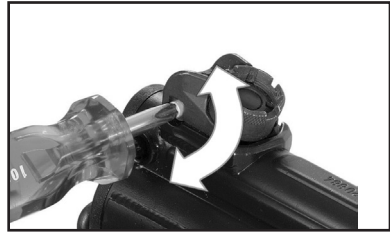

Fig. 18 – Turn windage
2. Turn windage adjustment screw clockwise (Fig. 18).
2. Turn windage adjustment screw counter-clockwise (Fig. 18).